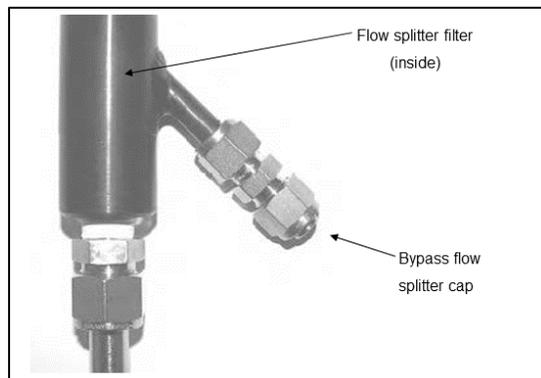

Figure AR-7. TEOM Flow Splitter and Cap
29. Cap the exit of the flow splitter bypass extension with the 3/8" Swagelok cap (Figure AR-7).
- iii. Cap the exit of the flow splitter bypass extension with the 3/8" Swagelok cap (Figure AR-7).